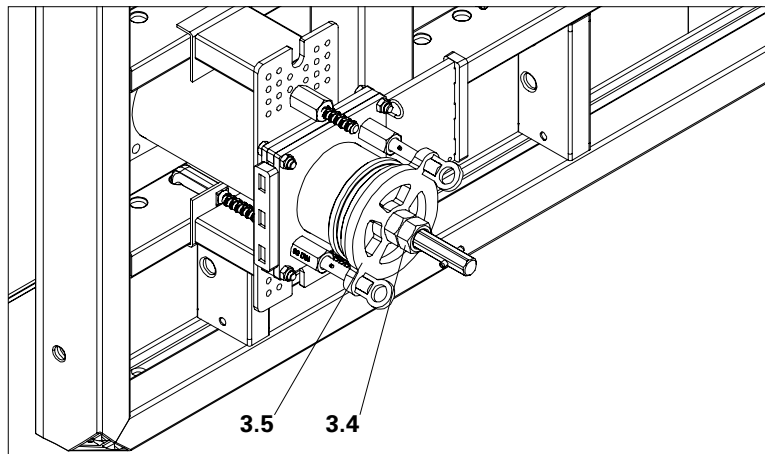

Fig. A.12
6. The Clear Slide remains in the Concrete Pump Connector until the concrete has reached a sufficient strength. (Fig. A.12)